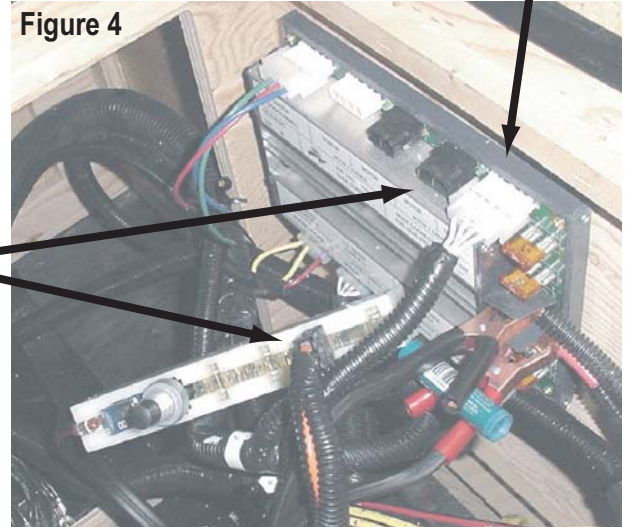
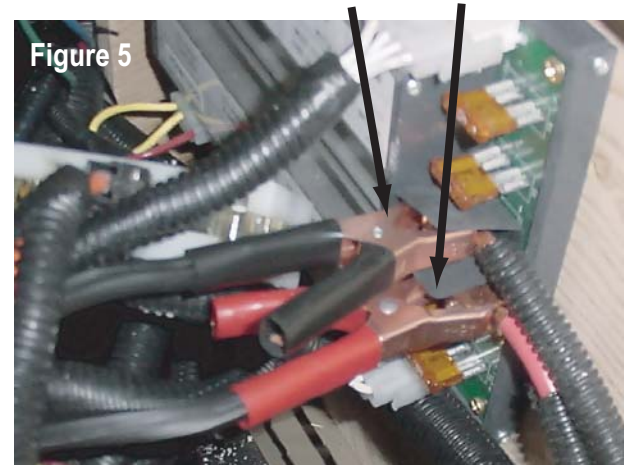

Figure 4
Figure 5
2) Test one motor at a time by removing the 2-pin motor connector from the control and plug it into the ERM. See figure 4.
**Remove (1) 2 pin motor connector at a time and plug into the ERM\***
3) Attach the emergency control retract module power leads to the full wall control power terminals or a separate fully charged battery. Red (+) to red (+) and black (-) to black (-). See figure 5.